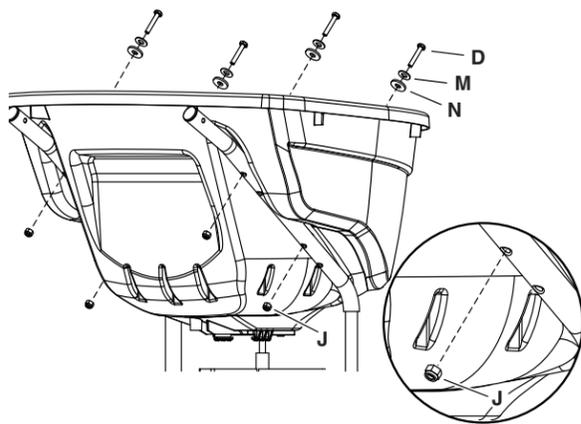

Figure 8
STEP 8: (SEE FIGURE 8)
- Attach the hopper to the upper set of holes in the hopper support tubes using four 1/4" x 1-3/4" hex bolts (D), 1/4" washers (M), nylon washers (N) and 1/4" nylock nuts (J). **Make only finger tight.**